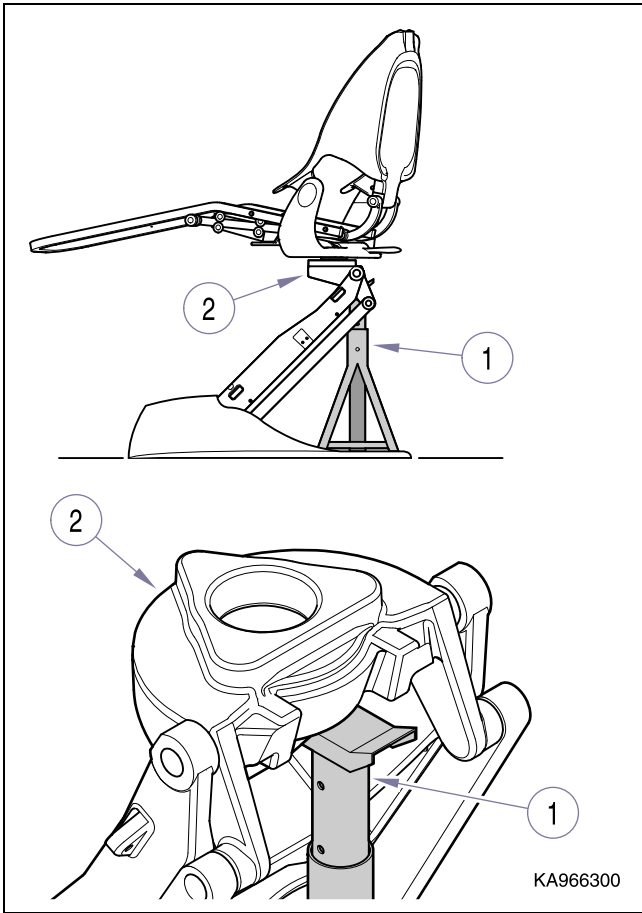

Figure 4-7. Hydraulic Base Cylinder
- b.) Raise Base Up function a minimum of 9" (23 cm) to get jack stand(s) (1, Fig. 4-7) beneath upper lift casting (2).
- c.) Lower Base Down function until chair rest securely on jack stand(s) (1).